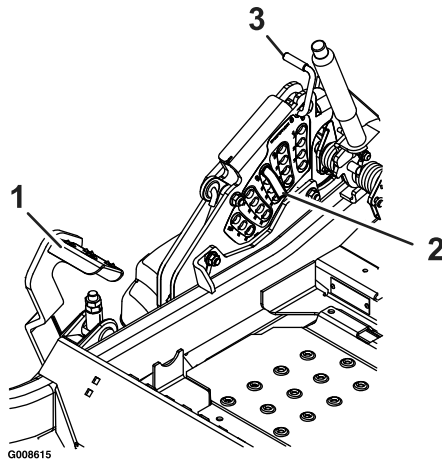

Figure 25
5. Push the foot pedal all the way forward and the deck will latch at the 5 1/2 inch (14 cm) transport position (Figure 25).